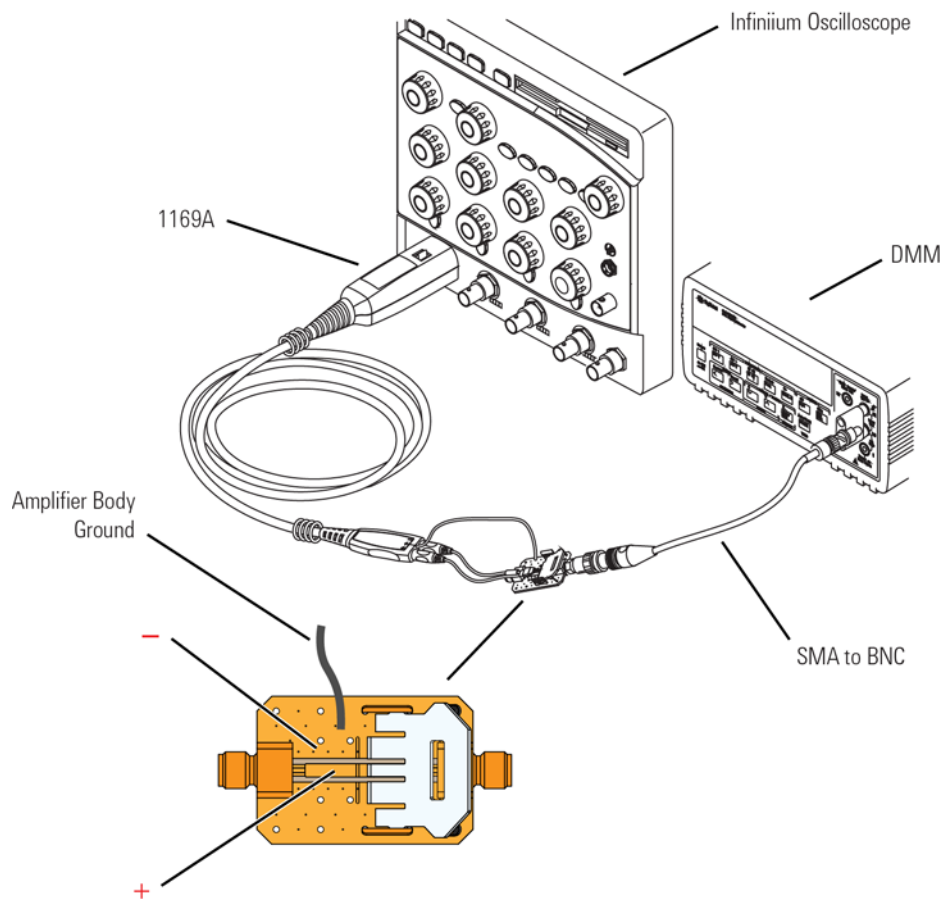

Figure 178 Probing Locations on PV Test Board for Differential Test
- 1 Using the PV/DS test board, connect the positive (+) probe tip to the 34401A DMM as shown in Figure 178 on page 212. Connect the probe's amplifier body ground to the PV/DS test board ground.